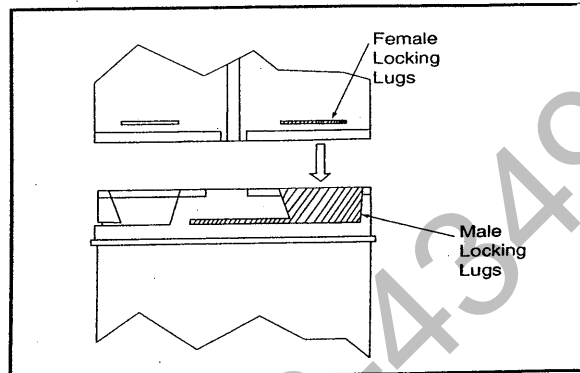

Figure 6
The Dura-Vent GS is unitized and twist-locks together. For the twist-lock procedure, consult Figure 6 and do the following:
- (1) Four indentations, located on the female ends of pipes and fittings, are designed to slide straight onto the male ends of adjacent pipes and fittings, by orienting the four pipe indentations so they match and slide into the four entry slots on the male ends (Figure 6).